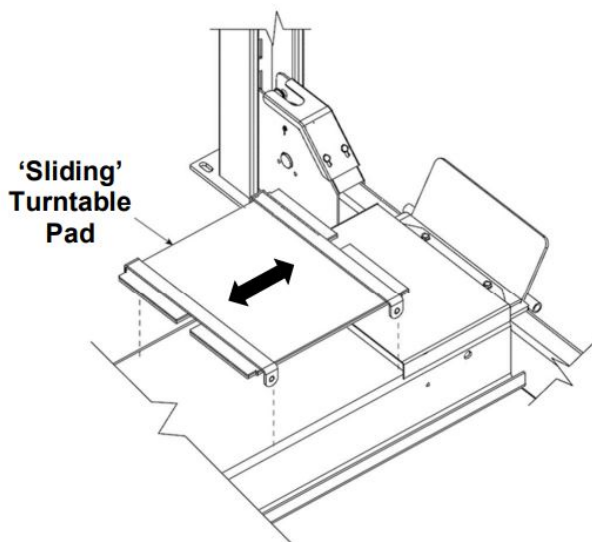

Fig. 3
4. Position the 'sliding' Turntable Pad (#3), so the front edge is positioned against the rear of the Front Spacer – Fig. 3.